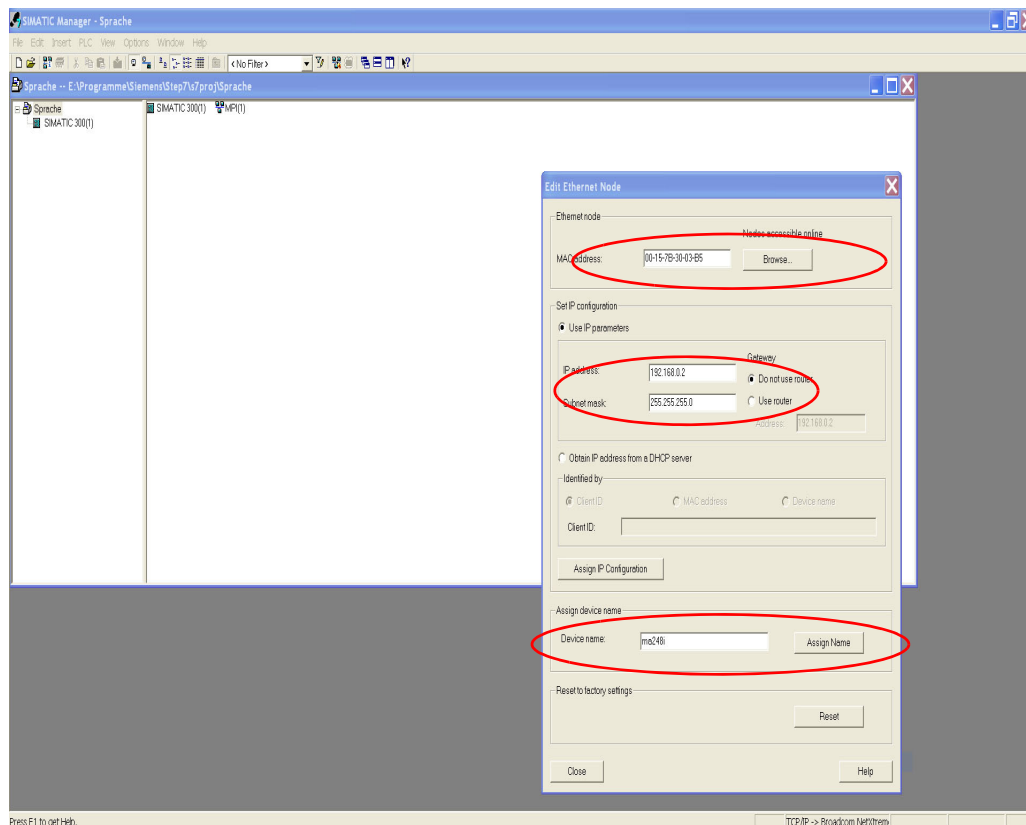

Figure 10.3: MAC address - IP address -individual device name
- Assignment of the device names to the configured IO devices (Figure 10.3...)